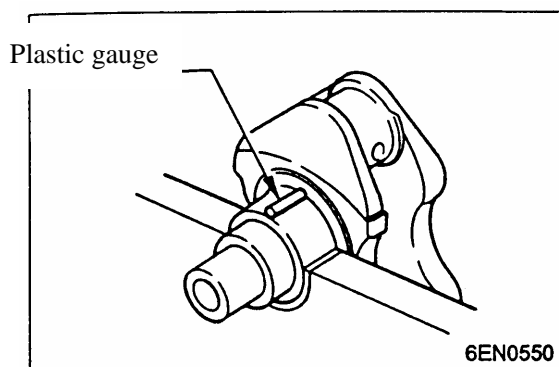

Fig.4-93
- (1) Wipe all oil off the crankshaft journal and the bearing's inside surface.
- (2) Install the crankshaft.
- (3) Cut the plastic gauge such that its length matches the width of the bearing, then place it on the journal along the journal's axis, see Fig.4-93.